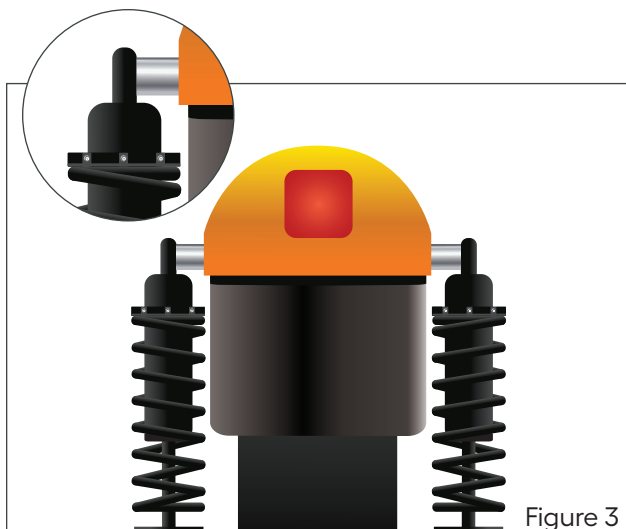
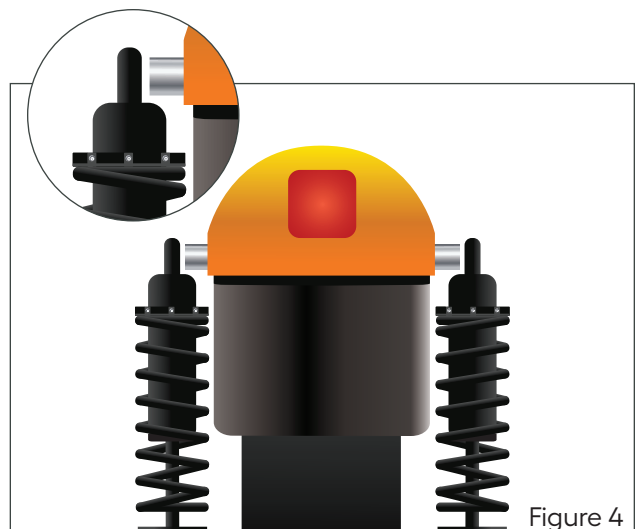

Figure 3
Figure 4
- Determine if top of the shock is flush with the top mounting point (Figure 3). If not, measure the gap to determine the spacers needed (Figure 4).